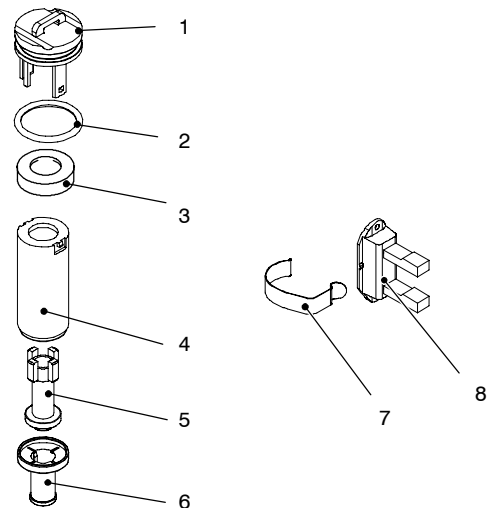

Fig. 68
14.2 Description and location of parts (Fig. 68)
- 3 To remove the filter from the flow switch group separate the filter 6 from the body 4 (Fig. 68) by levering it.
- 3 Insert the flow limiter 3 as shown in Fig. 68